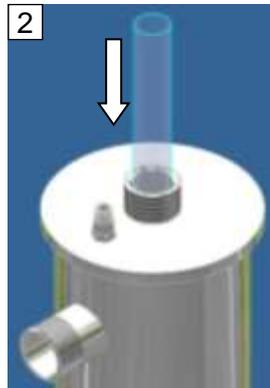

Fig. 9: Quartz tube
- ➔ Carefully insert the quartz tube (Fig. 9) into the radiation chamber and centre it on the spring-loaded guide (Fig. 10) on the floor of the radiation chamber.